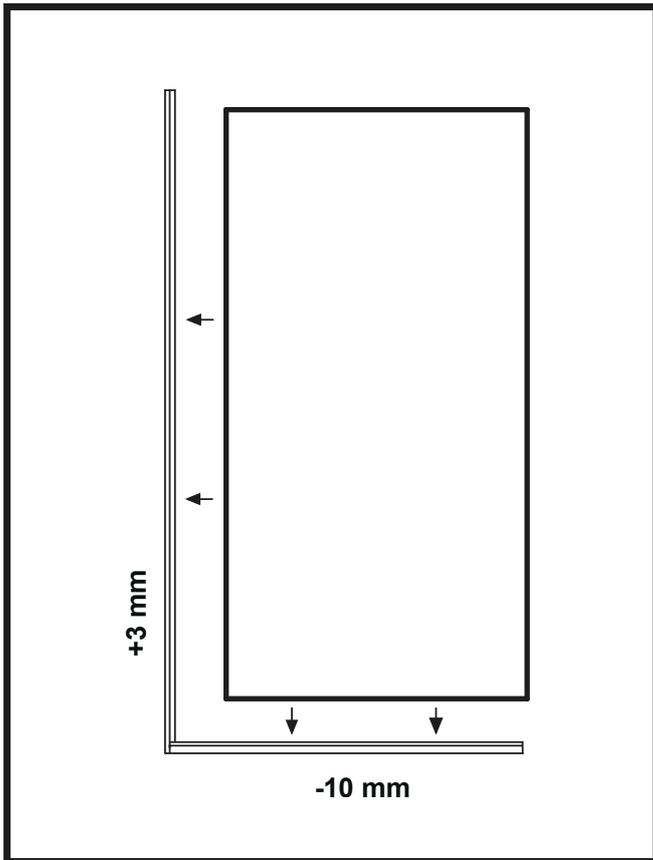

Figure 9
18. Check the length of the U-profile and glass. The bottom U-profile should be about 10 mm shorter than the glass and the longer vertical U-profile should be about 3 mm longer than the glass. (Figure 9)